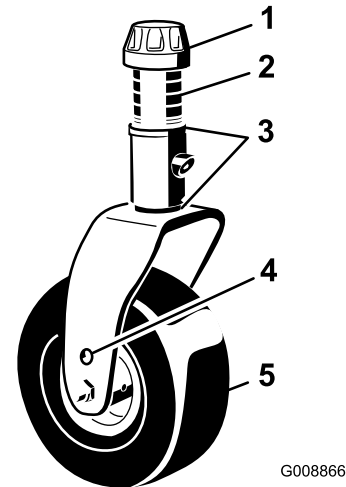

Figure 17
3. Remove the tensioning cap from the spindle shaft (Figure 17) and slide the spindle out of the castor arm. Put the 2 shims (3 mm [1/8 inch]) onto the spindle shaft as they were originally installed. These shims are required to achieve a level across the entire width of the cutting units. Slide the appropriate number of 13 mm (1/2 inch) spacers (refer to the chart below) onto the spindle shaft to get the desired height-of-cut; then slide the washer onto the shaft.